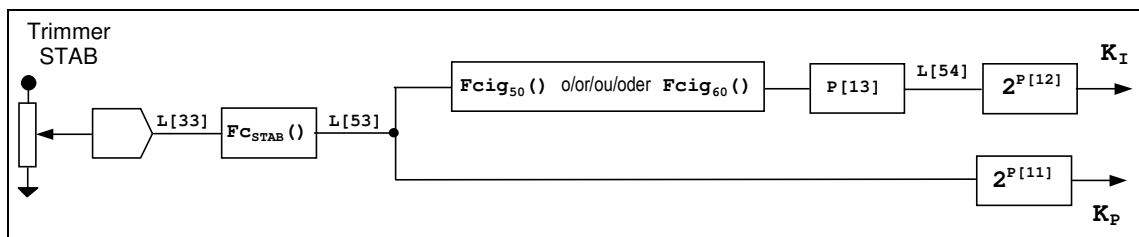
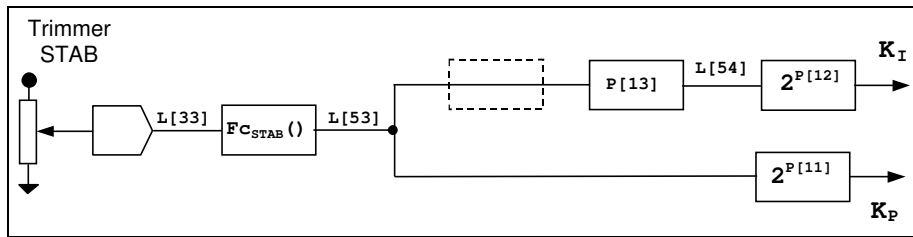
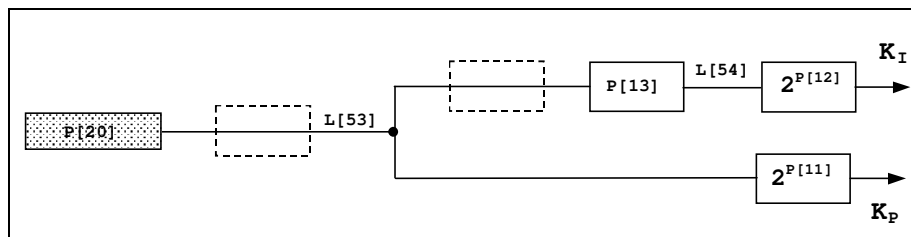

fig. 6a: drawing of the numeric elaboration of the proportional and integral gain by a DSR (standard) with the STAB trimmer enabled
fig. 6b: drawing of the numeric elaboration of the proportional and integral gain by a DSR/A with the STAB trimmer enabled
fig. 6c: drawing of the numeric elaborations of proportional and integral gain by all DSRs with STAB trimmer disabled
The numeric elaborations carried out by the DSR for obtaining the proportional and integral gain values are given in the block diagrams in figures 6a(2), 6b(2) and 6c.
If the STAB trimmer is enabled (STAB Flag Trimmer present) its angular position, available at location L[33], is transformed by the  $F_{C_{STAB}}^{(2)}$  function into the numeric value available at location L[53](3) (figs. 6a and 6b). If the STAB trimmer is disabled, the value of location L[53](3) directly becomes the value set using the P[20] parameter (fig. 6c).
The integral gain, available at location L[54](3) minus the multiplication by a coefficient, depends on the value of the proportional gain at location L[53](3); in the standard DSR (grey box) with the STAB trimmer enabled (STAB Flag Trimmer present) the value of location L[53](3) at 50Hz is transformed by the function  $F_{cig_{50}}^{(2)}$  and by the multiplication of the value of parameter P[13], in the numeric value available at location L[54](3); at 60Hz the transformation function is  $F_{cig_{60}}^{(2)}$ , different from that at 50Hz, (fig. 6a); in the other versions of the DSR (fig. 6b), for example DSR/A (blue box), or if the STAB trimmer is disabled(4) (fig. 6c), not only is there a difference between the integral value at 50Hz and at 60Hz, but even the value of location L[54](3) is obtained by simply multiplying the proportional gain at location L[53](3) by the value of parameter P[13].